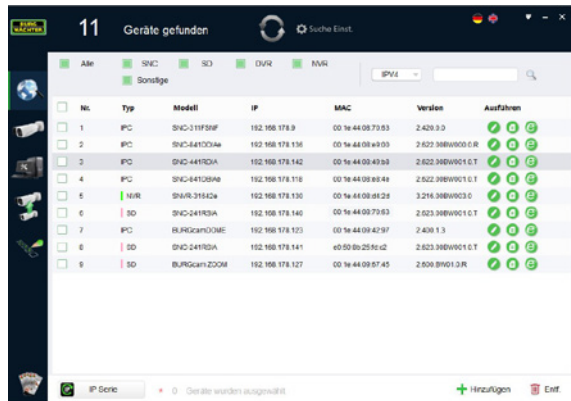

Fig 1
1. Tap on „Device Manager“ -> „+“ -> „Camera“ -> „WIFI Device“ -> „WIFI Connection“ to establish a connection between the camera and the router via WIFI. (Fig 1)